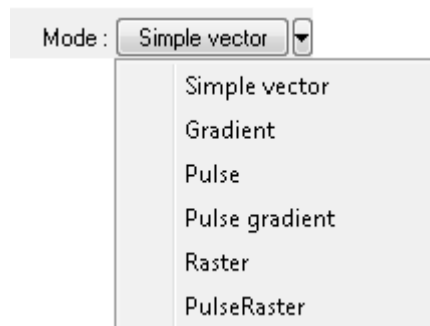

Fig. 12-16. Selecting option of vector lithography
6. In the **Mode** drop-down list, select a desired option of vector lithography (Fig. 12-16). Four options of vector lithography are available: